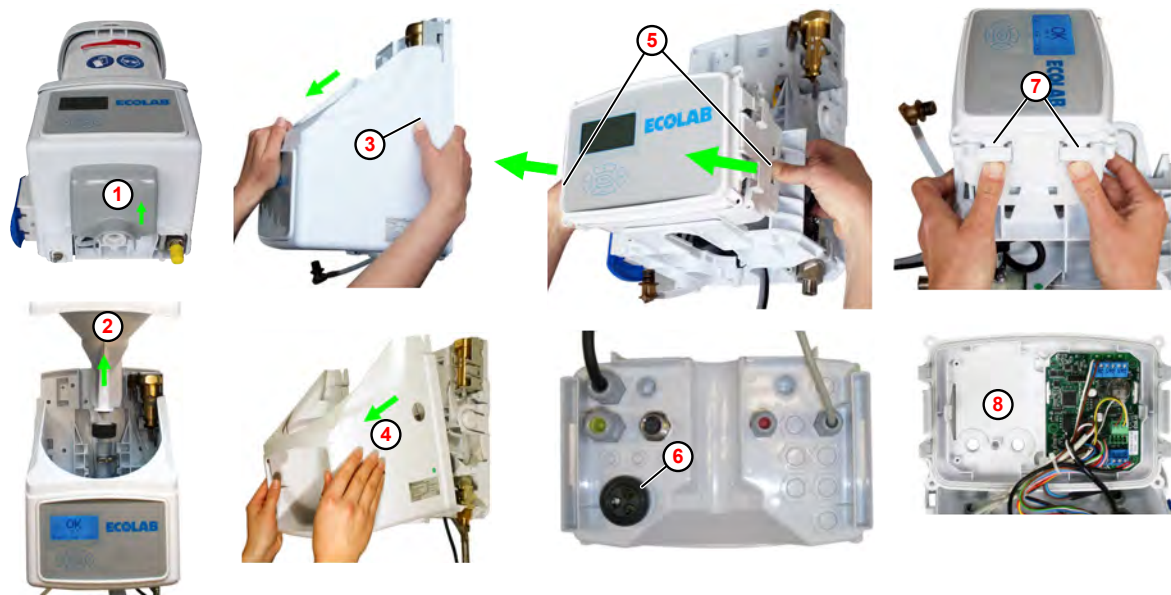

Fig. 7: Removal of the electronic unit
2. Push the funnel lock ( Fig. 7 , ① ) upwards and remove it.